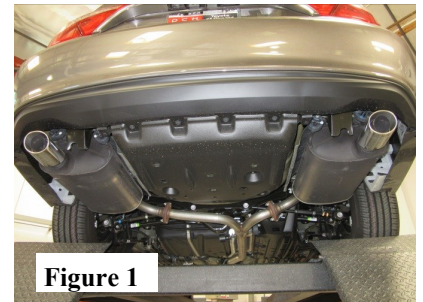

Figure 1
1. Lubricate all hangers, rubber isolator, bolts, and nuts. (See Fig. 1)